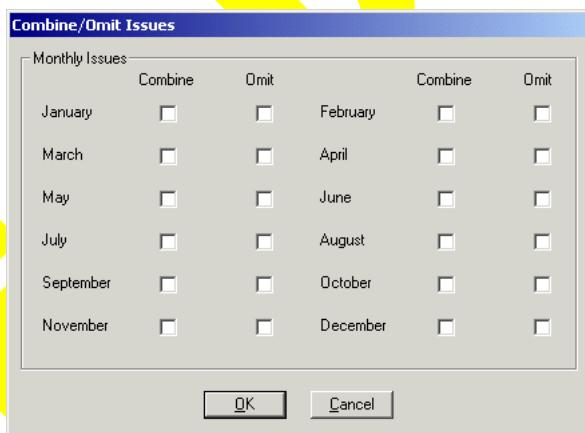

Figure 8-7. The Combine/Omit Issues dialog box
- Click the **Combine/Omit** button or press **Alt + M** on your keyboard from the **Start Prediction** dialog box to display the **Combine/Omit Issues** dialog box (see Figure 8-7).